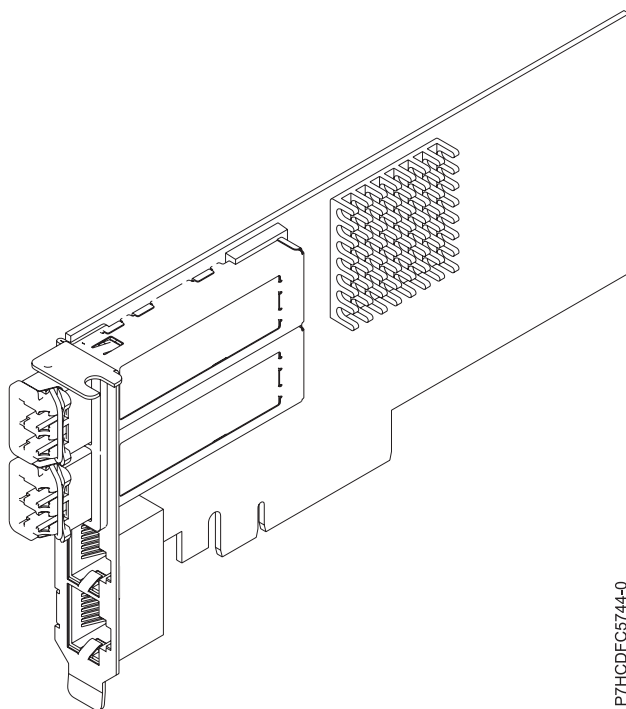

Figure 46. PCIe2 2x10GbE SR 2x1GbE UTP Adapter
The PCIe2 2x10GbE SR 2x1GbE UTP adapter is a PCI Express generation-2, four-port Ethernet unified wire adapter with a PCI Express 2.0 host bus interface. The adapter is optimized for cloud computing, virtualization, storage, and other data center applications. The four port adapter provides two 10 Gb Ethernet ports and two 1 Gb Ethernet ports. The two 10 Gb small form-factor pluggable (SFP+) single root (SR) transceiver ports are used for connectivity with other servers or switches in the network. Each SFP+ (SR) port provides Ethernet connectivity with a nominal data rate of 10 Gbps (gigabits per second), and uses the SFP+ copper twinaxial cables up to 5 m (16.4 ft) in length. Each of the RJ45 ports provides Ethernet connectivity at a data rate of 1 Gbps. The link aggregation and failover features of the adapter are ideal for critical network applications that require redundancy and high availability. Figure 46 shows the FC 5745 adapter.